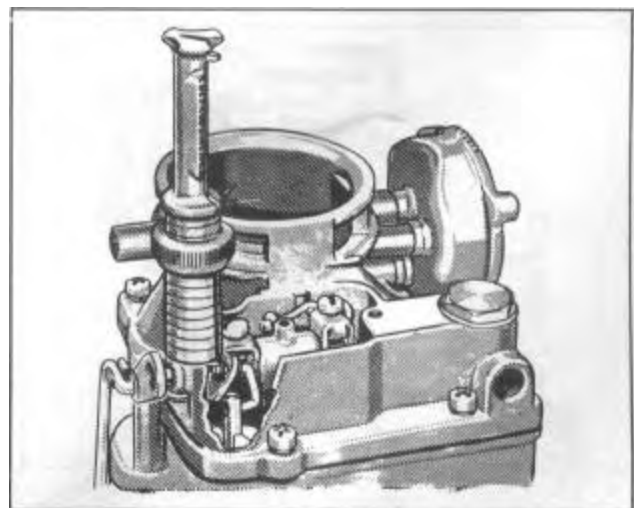

FIGURE 83
19. Set pump stroke, Figure 83, (see Page 16, for pump stroke setting).